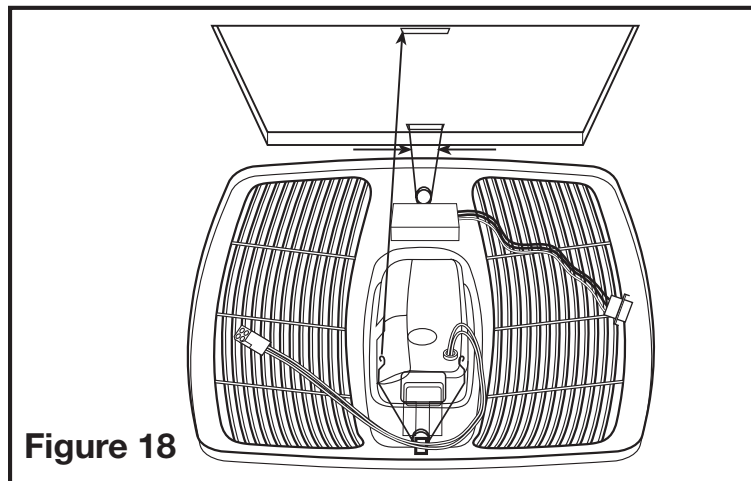

Figure 18
- 5b. **MOTION SENSING MODELS:** Install the grill by squeezing the springs together and installing it up into the slot furthest from the wire compartment on the fans housing. Attach the 4 pin quick connect from the grill to the 4 pin connector on the top of the wire cover. Attach the 4 pin quick connect from the motion sensor to the 4 pin connector on the top of the wire cover. The cords will only fit one way into the receptacle. Install the other spring and push the grill up into position. (**Figure 18**).